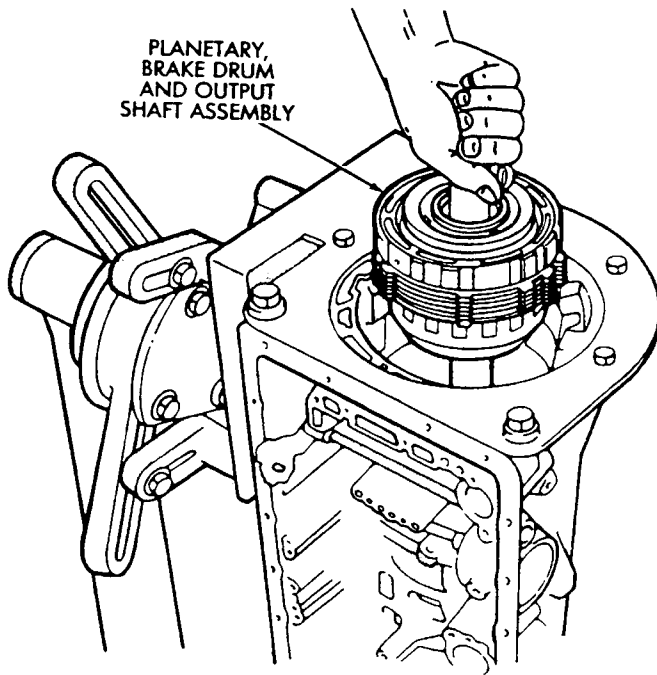

Fig. 46 Removing Rear Planetary, Second Brake Drum And Output Shaft
(55) Remove rear planetary gear, second brake drum and output shaft as an assembly (Fig. 46).